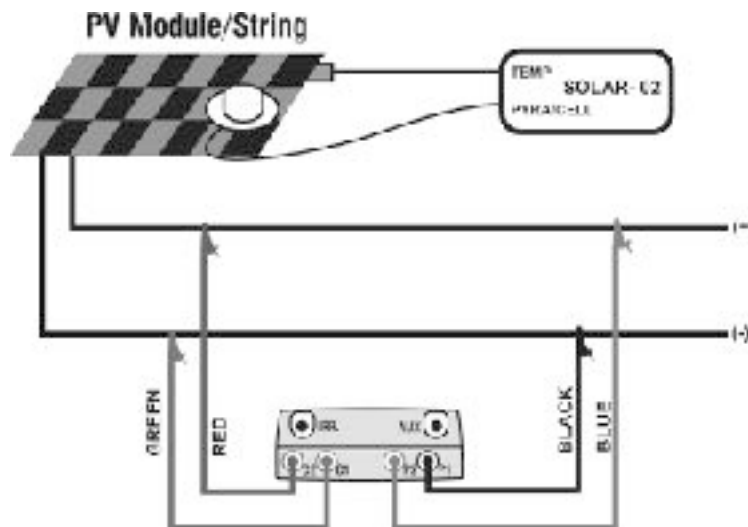

Fig. 9: Connection of units to the PV module/string
- 21. Connect the meter to the module/string under test as shown in Fig.9. In particular, connect the negative output pole of module/string to P1, C1 input terminals and the positive output pole of module/string to P2, C2 input terminals. In **Auto** activation mode is recommended the use of KITKELVIN optional accessory